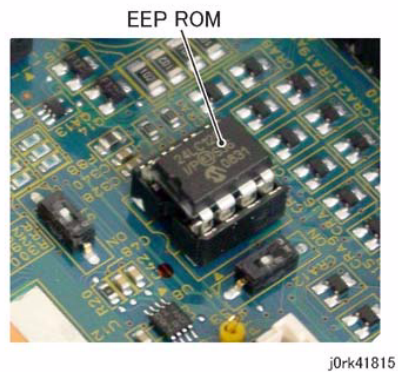

Figure 3 EEPROM
1. When replacing the MCU PWB, remove the EEPROM from the old MCU PWB and install it onto the new one. (Figure 3)